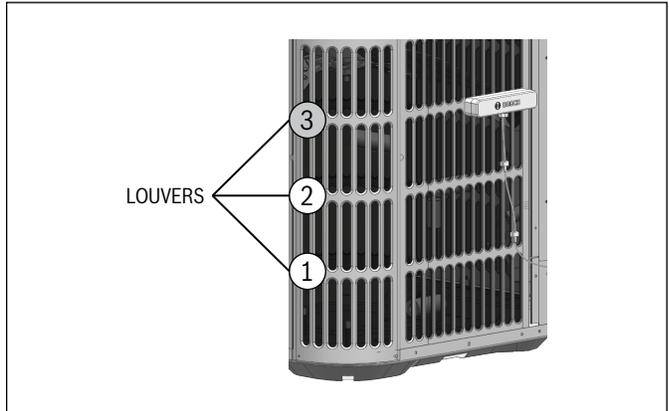

Figure 8
- Center and install new antenna on the 3rd louver by lining up the antenna with the grills in parallel and pushing down on the top of the antenna. Ensure the antenna is installed away from any walls (Refer to Figures 8 & 9).